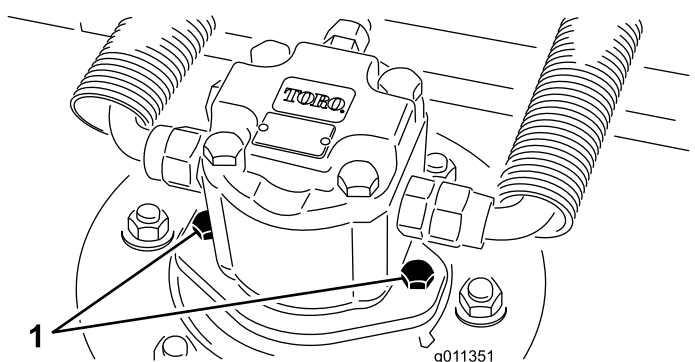

Figure 78
2. Disconnect and remove the hydraulic motor from the deck (Figure 78). Cover the top of the spindle to prevent contamination.
4. Install the hydraulic motor to the deck (Figure 78). Make sure that the O-ring is in position and not damaged.